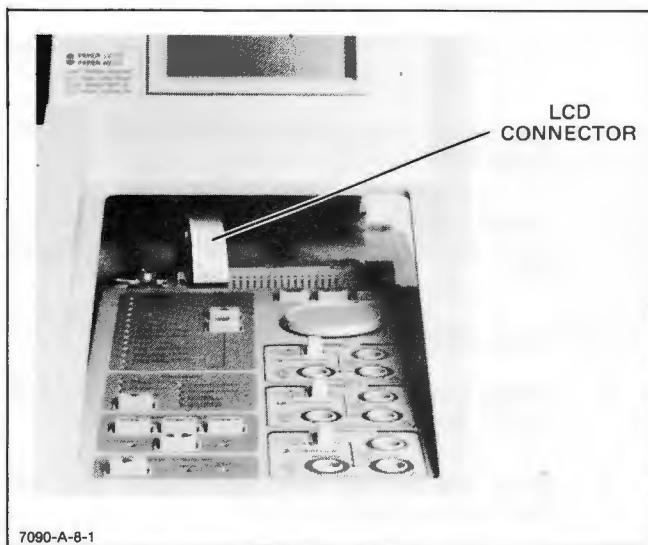

Figure 8-12. LCD Connector
- c. Gently lift the rear of the top cover until the liquid crystal display (LCD) connector is accessible. See Figure 8-12.